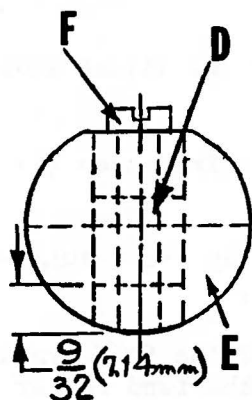

Fig. 4A
The distance from the main shaft head (E, Fig. 4A) to the head of the feed crank stud (D) should be 9/32 inch (7.14 mm) (Fig. 4A). As the movement of the feed rocker segment is limited by the bed, make sure that the free space between the segment (B) and the bed is not less than 1/32 inch (.79 mm).